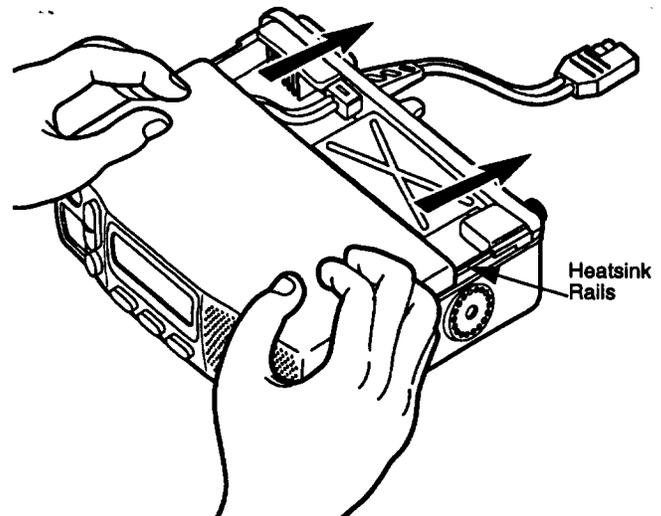

Figure 1-5. Align Housing Cover to Heatsink Rails
- With the radio on a flat surface, place the housing approximately halfway on the heatsink guide rails (Figure 1-5).
- Using both hands, press down on either side of the housing to assure that the heatsink and housing rails are aligned (Figure 1-5).